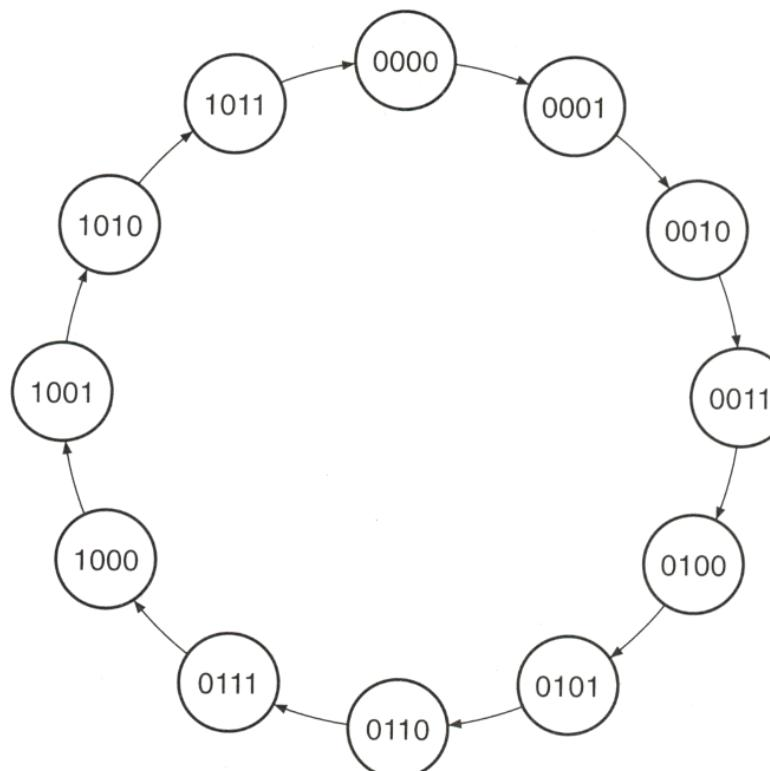

FIGURE 9.14 State Diagram for a Mod-12 Counter
2. *Draw a state diagram.* The state diagram for this problem is shown in Figure 9.14.